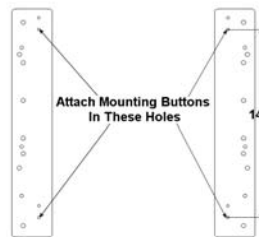
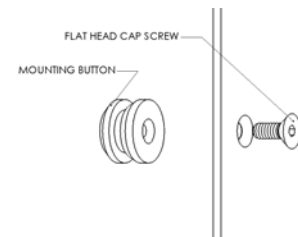

Figure 2
Figure 3
1. Using a 10-24 flat head cap screw inserted from chamfered hole side of bracket, secure mounting button, with chamfered hole of mounting button (larger surface) facing bracket, to bracket (four places) (see Figure 2 & Figure 3).